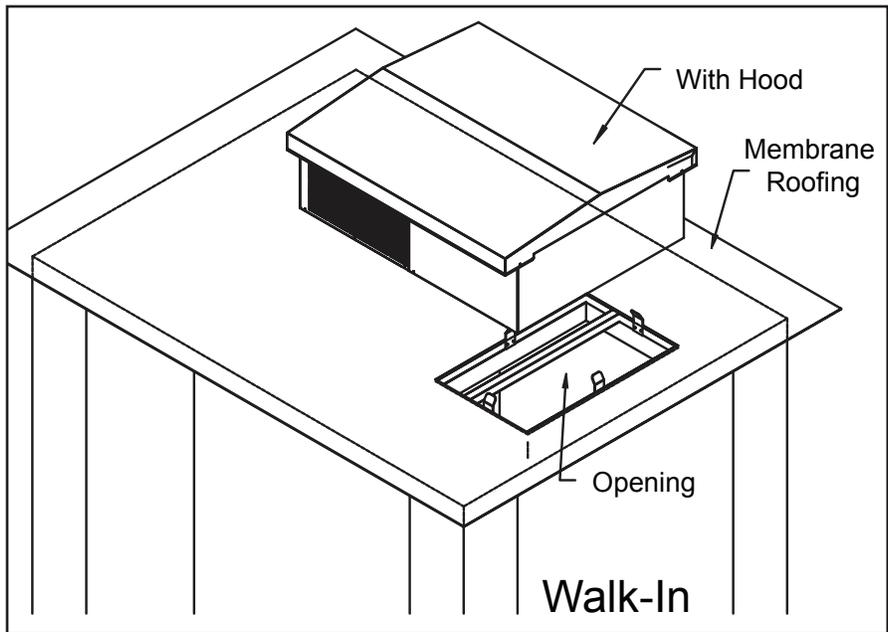

Figure 3
4. Set the Refrigeration System over the opening in the curb. Remove Diffuser Panel from the ceiling inside the walk-in to gain access to four latches located along the inner perimeter of the cowl. Refer to the Latch and Diffuser Installation Instructions found on pages 6 and 7. Use the Lock Extensions supplied with the curb to bridge the distance between the latches and strikes. Seal the latched seam as described in the instructions. When reinstalling the Diffuser Panel, make sure that the ceiling section divider located on the panel seals against the black gasket. Some adjustment may be required by simply bending the ceiling section divider slightly forward or backward. This will prevent any short cycling of discharge and return air. Remove the enclosure from the condensing unit portion of the system and drill two 9/16" holes through the condensing unit base plate, membrane roof material and the foamed ceiling section. The holes should be located on opposite sides of the unit. Insert one 1/2" threaded nylon rod into each hole. Apply silicone sealant around each nylon rod and hole and place one washer and nut on the condensing unit end of each threaded nylon rod. Place a second washer and nut on the inside of the walk-in and tighten securely. Replace the enclosure and attach the outdoor hood with the drive screws provided. Refer to Figure 3. The nylon rods, washers, and nuts are provided.